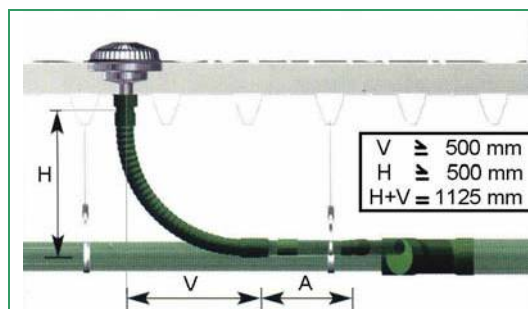

Fig 1: normal situation – side view
- Always install the horizontal pipe approx. 300 mm next to the roof outlets (see fig. 1 and 2);
The outlet is connected to the collector pipe by means of a simple snap lock connection of the outlet-jointing hose to the outlet's spigot. Next a spigot pipe can be applied starting from the collector pipe or the collector pipe tee-element (and reducer) using a pipe, a 45° bend, pipe and double socket. This spigot pipe is glued in the double socket at one side and at the other side it is mounted to the already mounted flexible outlet hose by means of a snap lock connection (see figures 1, 2 and 3).